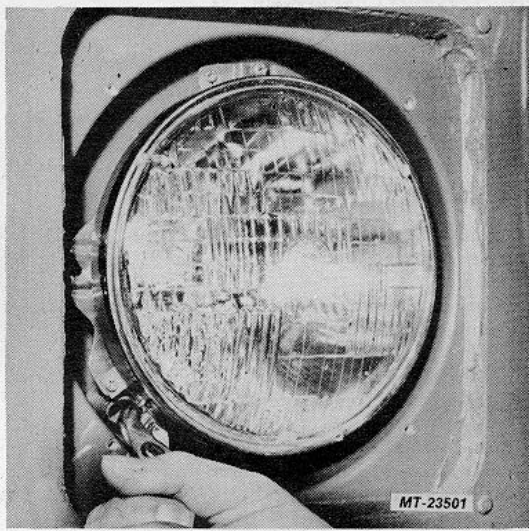

Fig. 6 Disconnecting Headlight Retainer Spring
2. Disconnect headlight retaining spring from headlight assembly (Figure 6).